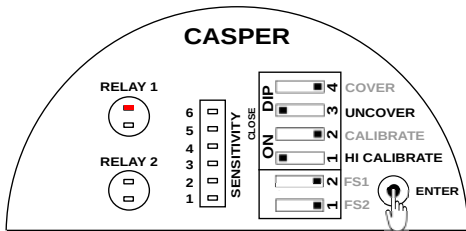

Figure 18: Setting Uncover Delay for Relay 2
- Press ENTER and keep it pressed as shown in Figure 18. The STATUS RED LED of Relay 1 will start blinking. Count the number of blinks. After setting the value release the ENTER key.